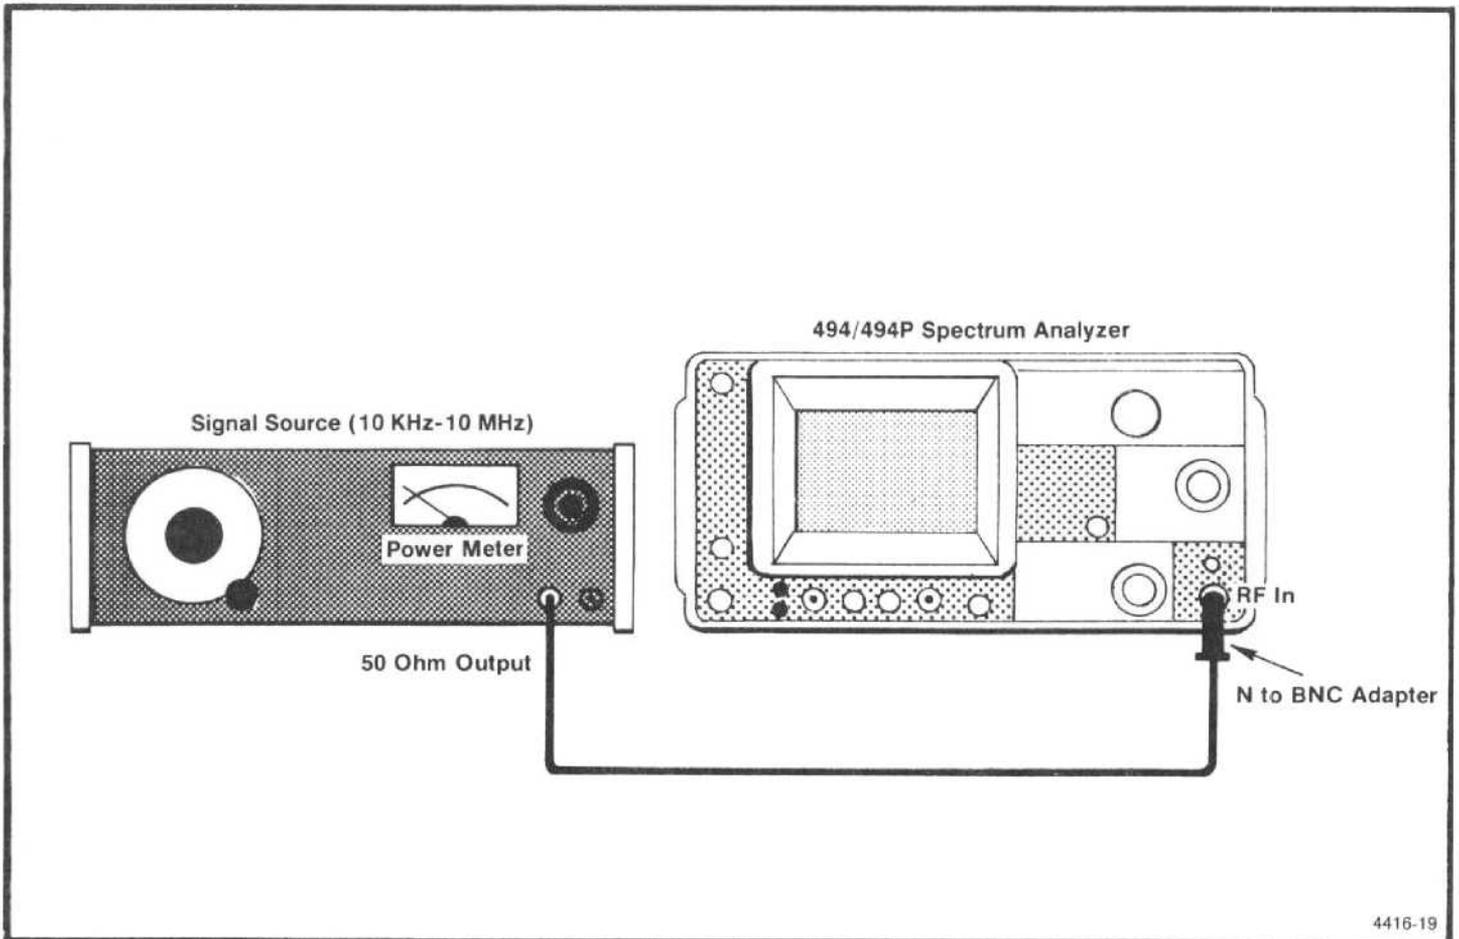

Figure 4-11. Test equipment setup for measuring 10 kHz to 10 MHz frequency response.
a. Test equipment setup is shown in Figure 4-11. Set the FREQUENCY to 5 MHz, FREQ SPAN/DIV to 1 MHz, TIME/DIV to 20 ms, REF LEVEL to 0 dBm, and MIN RF ATTEN to 30 dB. Activate 1 dB/div and AUTO RESOLN.